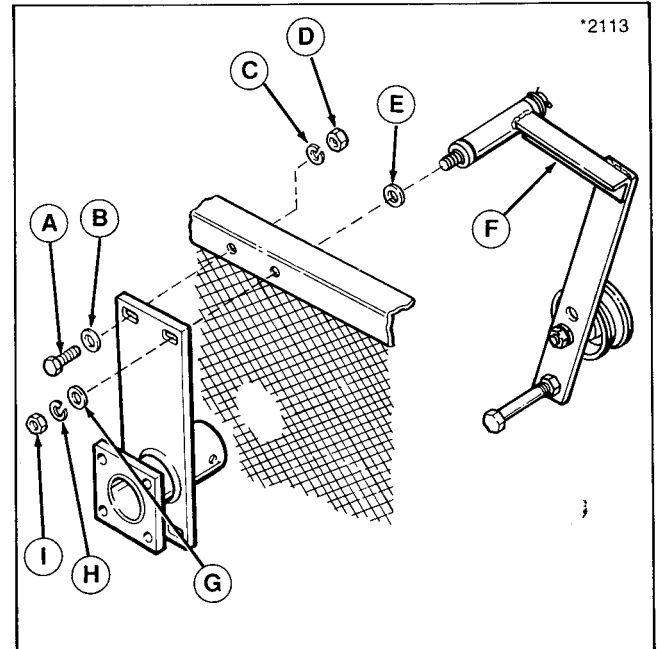

Figure 3.
5. Install blower housing to frame with three 5/16-18 x 1" capscrews (A, figure 3), flat washers (B), lockwashers (C), and nuts (D). Hardware will be installed in top right hole in next step. Mount in forward position of bracket slots when tightening hardware.
6. Place a flat washer (E, figure 3, 7/8" O.D., 1/2" I.D.) on shaft of idler pulley bracket (F) and install bracket through top front hole (enlarge to 13/32" as necessary). Secure with flat washer (G, 7/8" O.D., 13/32" I.D.), 3/8 lockwasher (H), and 3/8 nut (I). With hardware tightened, shaft and idler pulley arm should be square with rider frame. Additional flat washers (E) can be installed between idler pulley bracket and frame to provide proper belt alignment with blower shaft pulley and PTO pulley (see step 8). Before installing idler pulley bracket, cut the screen or grind any weld that will prevent a flush, square fitment to frame.